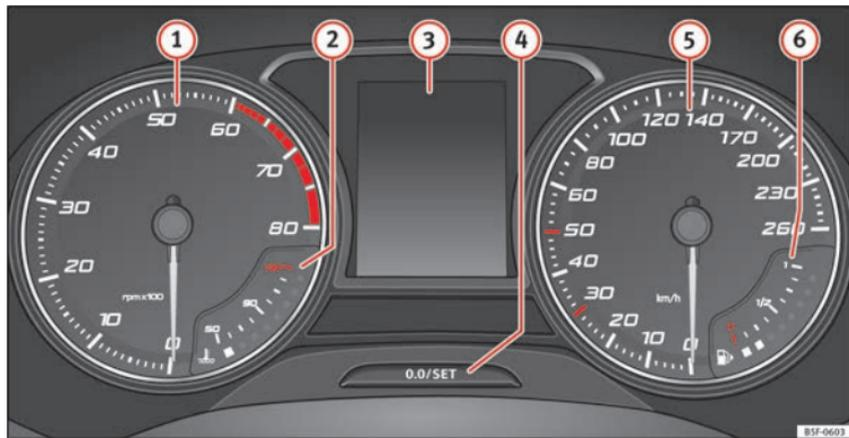

Fig. 121 Instrument panel, on dash panel
The rev counter indicates the number of engine revolutions per minute » **Fig. 121 ①**.
Never allow the rev counter needle ① » **Fig. 121** to go into the red zone on the scale for more than a very brief period, otherwise there is a risk of engine damage.
A variety of information can be viewed on the instrument panel display » **Fig. 121 ③** depending on the vehicle equipment:
- Briefly press the button » **Fig. 121 ④** to reset the trip recorder to 0.
- Keep the button ④ pressed for about 3 seconds and the previous value will be displayed.
The coolant temperature gauge **(2)** » **Fig. 121** only works when the ignition is switched on. In order to avoid engine damage, please read the following notes for the different temperature ranges.
The display ⑥ » Fig. 121 only works when the ignition is switched on. When the display reaches the reserve mark, the lower diode lights up in red and the control lamp ④ appears » page 96. When the fuel level is very low, the lower diode flashes in red.
The distance to empty fuel level is displayed on the instrument panel ③ » Fig. 121.